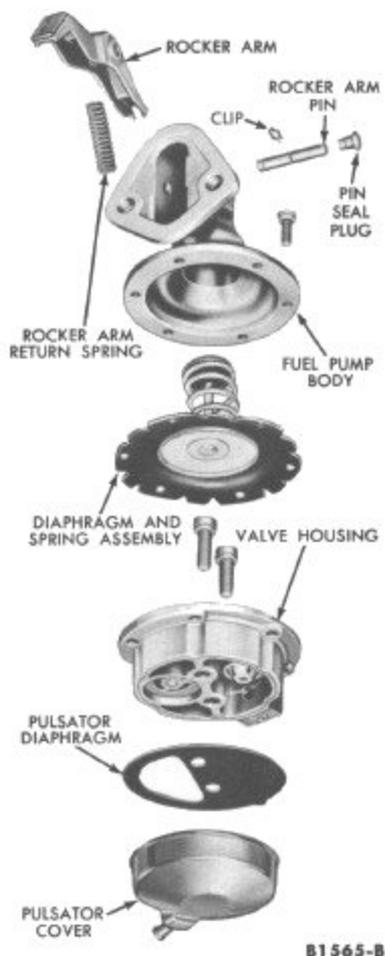

FIG. 35—Fuel Pump Assembly
The fuel pump for the 1963 EEV-144 and EEW-170 engine installations is a new design, single action type, manufactured by Carter. The pump incorporates pressure leak-down bleed holes in the valve assemblies to prevent excessive pressure build-up in the fuel line during hot soak periods. Specifications are identical to those for the 1962 pump. The fuel pump is shown in Fig. 35.
3. Remove the rocker arm return spring, then remove the clip from the rocker arm pin (Fig. 35).
the groove in the center of the rocker arm pin (Fig. 35).